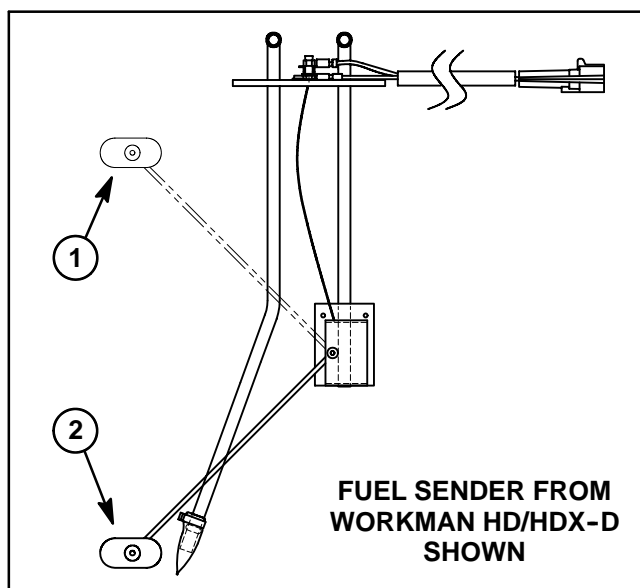

Figure 27
6. Check resistance of the sender with a multimeter (Fig. 27).